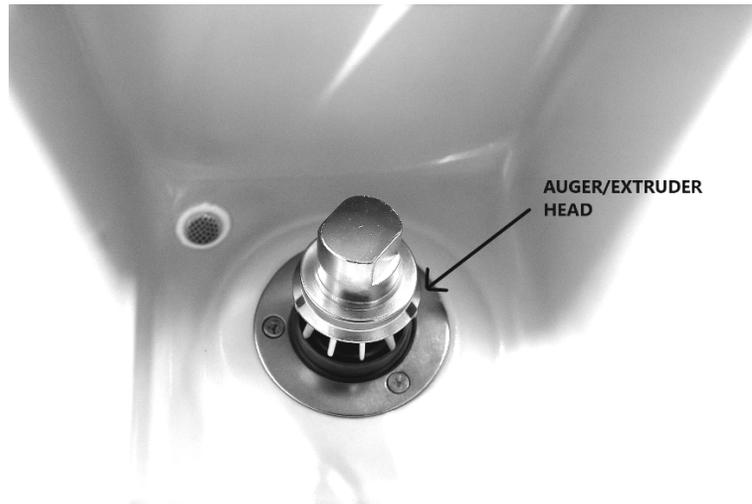

Figure 3.
1. Install the extruder head on top of the evaporator, as shown in Figure 3.